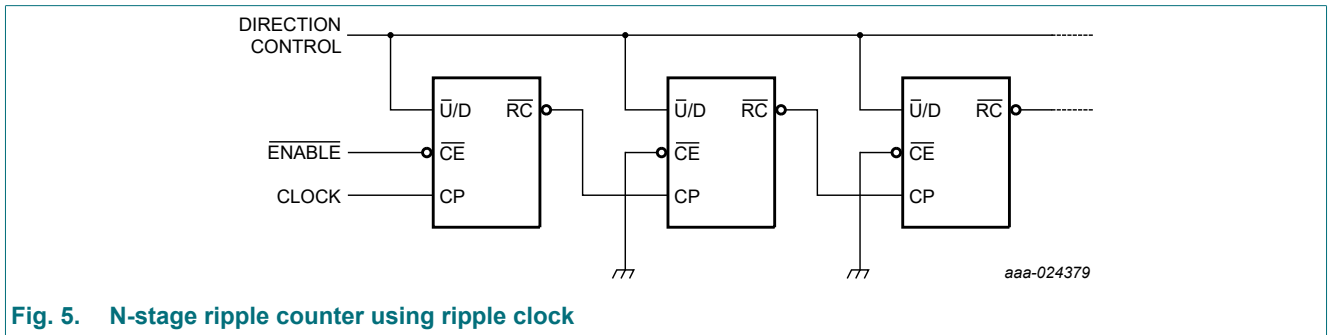
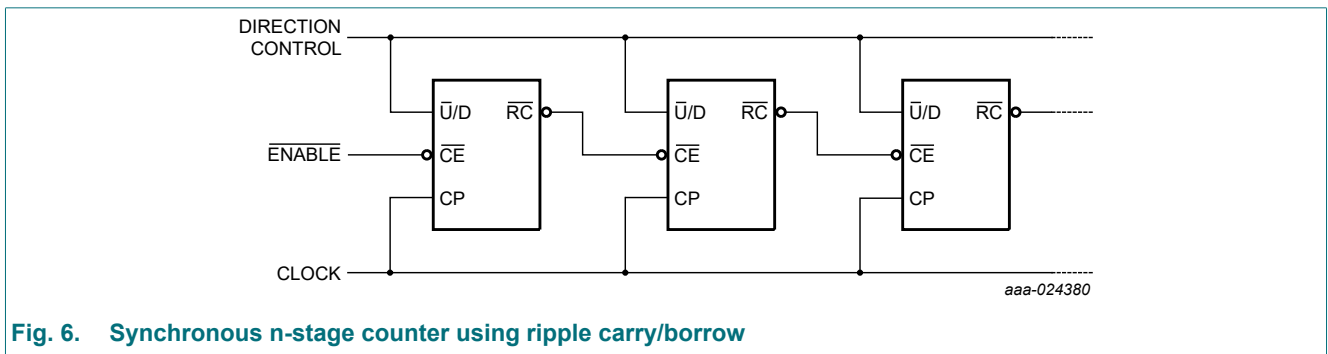

Fig. 5. N-stage ripple counter using ripple clock
Fig. 6. Synchronous n-stage counter using ripple carry/borrow
The 74HC191 is an asynchronously presettable 4-bit binary up/down counter. It contains four master/slave flip-flops with internal gating and steering logic to provide asynchronous preset and synchronous count-up and count-down operation. Asynchronous parallel load capability permits the counter to be preset to any desired value. Information present on the parallel data inputs (D0 to D3) is loaded into the counter and appears on the outputs when the parallel load ( $\overline{PL}$ ) input is LOW. This operation overrides the counting function. Counting is inhibited by a HIGH level on the count enable ( $\overline{CE}$ ) input. When  $\overline{CE}$  is LOW internal state changes are initiated synchronously by the LOW-to-HIGH transition of the clock input. The up/down ( $\overline{U/D}$ ) input signal determines the direction of counting as indicated in the function table. The  $\overline{CE}$  input may go LOW when the clock is in either state, however, the LOW-to-HIGH  $\overline{CE}$  transition must occur only when the clock is HIGH. Also, the  $\overline{U/D}$  input should be changed only when either  $\overline{CE}$  or CP is HIGH. Overflow/underflow indications are provided by two types of outputs, the terminal count (TC) and ripple clock ( $\overline{RC}$ ). The TC output is normally LOW and goes HIGH when a circuit reaches zero in the count-down mode or reaches '15' in the count-up-mode. The TC output will remain HIGH until a state change occurs, either by counting or presetting, or until  $\overline{U/D}$  is changed. Do not use the TC output as a clock signal because it is subject to decoding spikes. The TC signal is used internally to enable the  $\overline{RC}$  output. When TC is HIGH and  $\overline{CE}$  is LOW, the  $\overline{RC}$  output follows the clock pulse (CP). This feature simplifies the design of multistage counters as shown in Fig. 5 and Fig. 6. In Fig. 5, each  $\overline{RC}$  output is used as the clock input to the next higher stage. It is only necessary to inhibit the first stage to prevent counting in all stages, since a HIGH on  $\overline{CE}$  inhibits the  $\overline{RC}$  output pulse. The timing skew between state changes in the first and last stages is represented by the cumulative delay of the clock as it ripples through the preceding stages. This can be a disadvantage of this configuration in some applications. Fig. 6 shows a method of causing state changes to occur simultaneously in all stages. The  $\overline{RC}$  outputs propagate the carry/borrow signals in ripple fashion and all clock inputs are driven in parallel. In this configuration the duration of the clock LOW state must be long enough to allow the negative-going edge of the carry/borrow signal to ripple through to the last stage before the clock goes HIGH. Since the  $\overline{RC}$  output of any package goes HIGH shortly after its CP input goes HIGH there is no such restriction on the HIGH-state duration of the clock. In Fig. 7, the configuration shown avoids ripple delays and their associated restrictions. Combining the TC signals from all the preceding stages forms the  $\overline{CE}$  input for a given stage. An enable must be included in each carry gate in order to inhibit counting. The TC output of a given stage is not affected by its own  $\overline{CE}$  signal therefore the simple inhibit scheme of Fig. 5 and Fig. 6 does not apply. Inputs include clamp diodes. This enables the use of current limiting resistors to interface inputs to voltages in excess of  $V_{CC}$ .